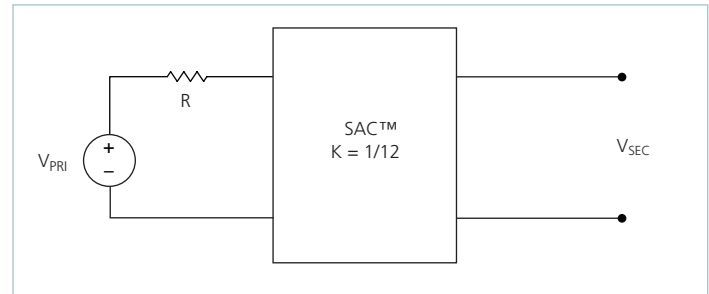

Figure 18 —  $K = 1/12$  Sine Amplitude Converter™ with series primary resistor
The use of DC voltage transformation provides additional interesting attributes. Assuming that  $R_{SEC} = 0\Omega$  and  $I_Q = 0A$ , Eq. (3) now becomes Eq. (1) and is essentially load independent, resistor R is now placed in series with  $V_{PRI}$  as shown in Figure 18.
Assuming that  $R = 1\Omega$ , the effective  $R$  as seen from the secondary side is  $6.9m\Omega$ , with  $K = 1/12$  as shown in Figure 18.